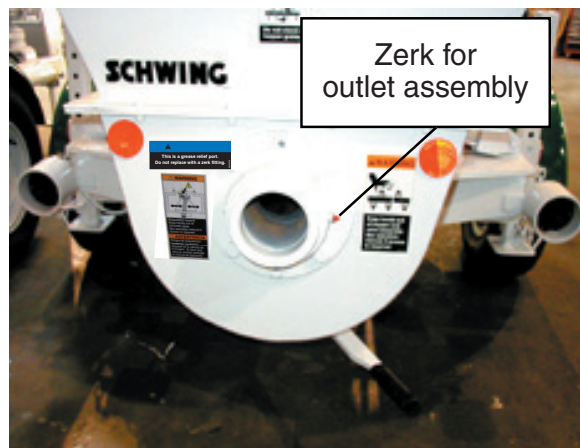

Figure 33
8. Grease the pivot shaft bearing and outlet assembly (Figure 33). This can be done on the job as described in the *Operation* section of this manual.